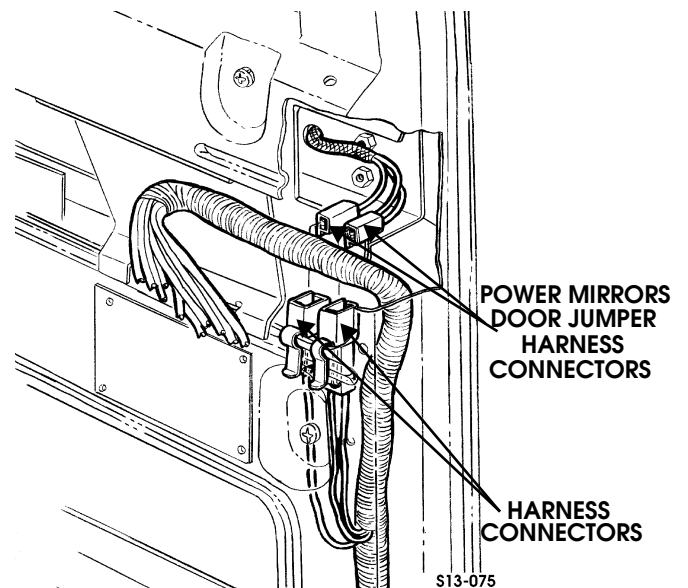

Figure 2-118: Power Mirrors Door Jumper Harness
4. Disconnect 4-way and 6-way harness connectors from power windows and door locks body harness connectors (Figure 2-118).